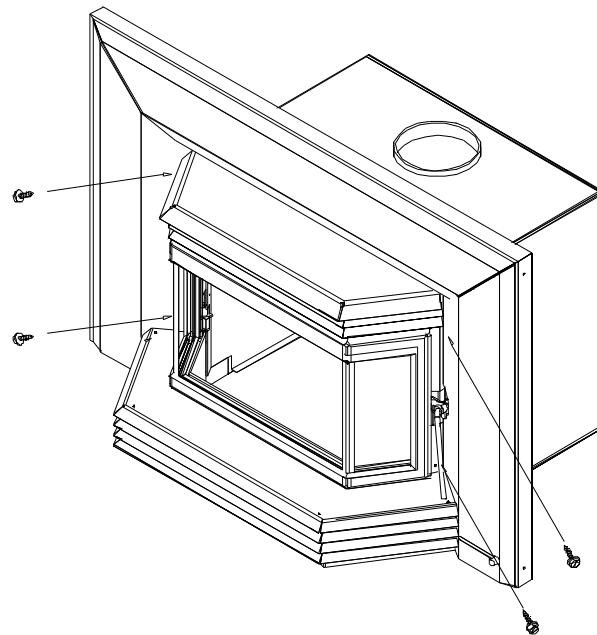

Figure 2.9e
9. Install faceplate (Figure 2.9e) with four (#10 x 3/8" sheet metal) screws supplied, ensuring the 1/4" rod on the air control plate extension protrudes through the slot in the RH faceplate & moves freely horizontally.